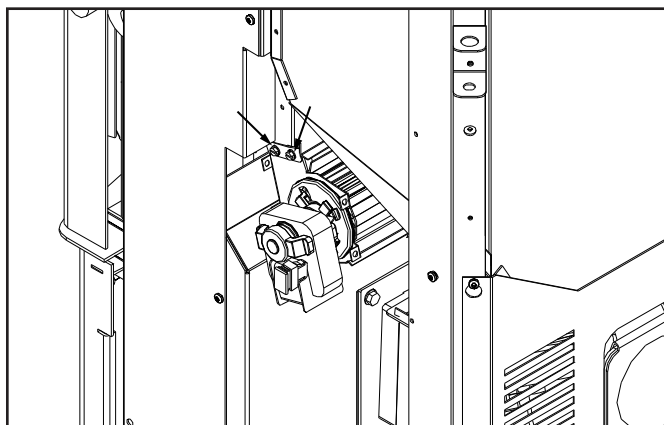

Figure 34: Behind the right cab panels.
3. Slide the fan into place between the bracket (see Figure 34 & 35).
4. Using a flat head screwdriver or a  $\frac{1}{4}$ " socket fasten the fan in place with two (2) screws on each side.